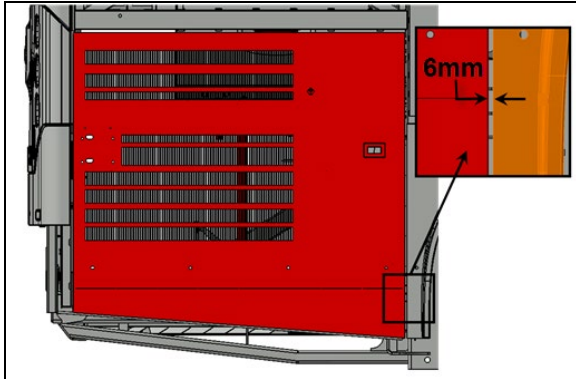

FIGURE 59
7. Check the gap between the door and the adjacent panel at the level of the lower attachment point of the arm on the door. The gap should be $\frac{1}{4}$ " (6 mm) (FIGURE 59).